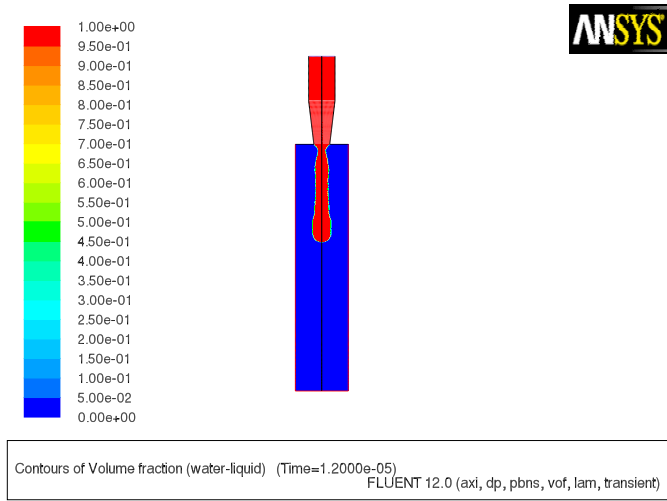

Figure 18.6: Contours of Water Volume Fraction After 12 μ s
3. Similarly, display contours of water volume fraction after 12, 18, 24, and 30 microseconds (Figures 18.6—18.9).